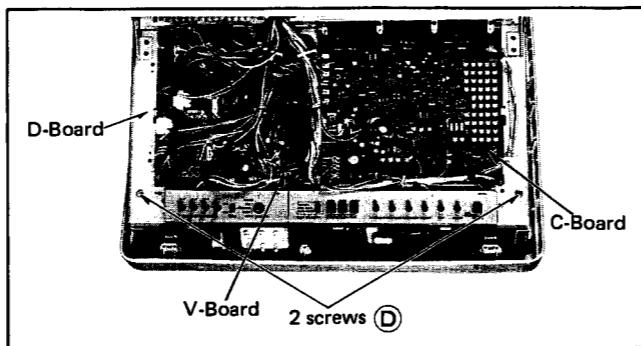

Fig. 5
- Loosen 2 screws **D** to counterclockwise by 90° in fig. 5.